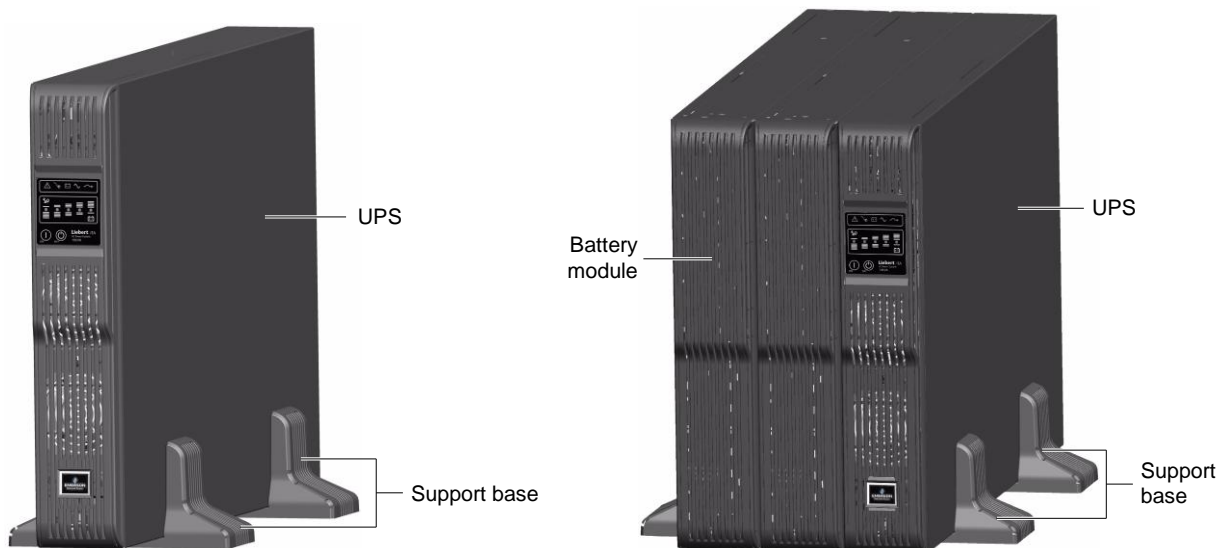

Figure 2-6 Installing UPS and battery module
5. Place the UPS and the battery module (if configured) on the support bases and support base extensions. Each UPS needs two pairs of the support bases, as shown in Figure 2-6.